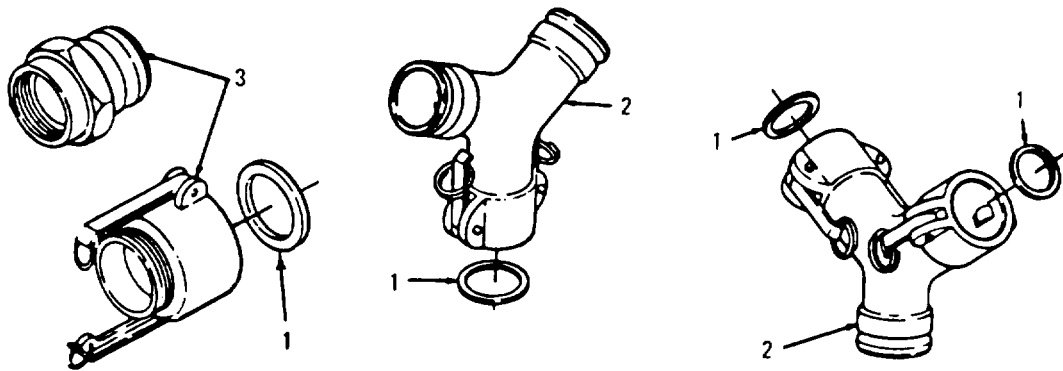

Figure 4-29. Y-Connectors and Couplings
a. Removal. (Refer to Figure 4-29)